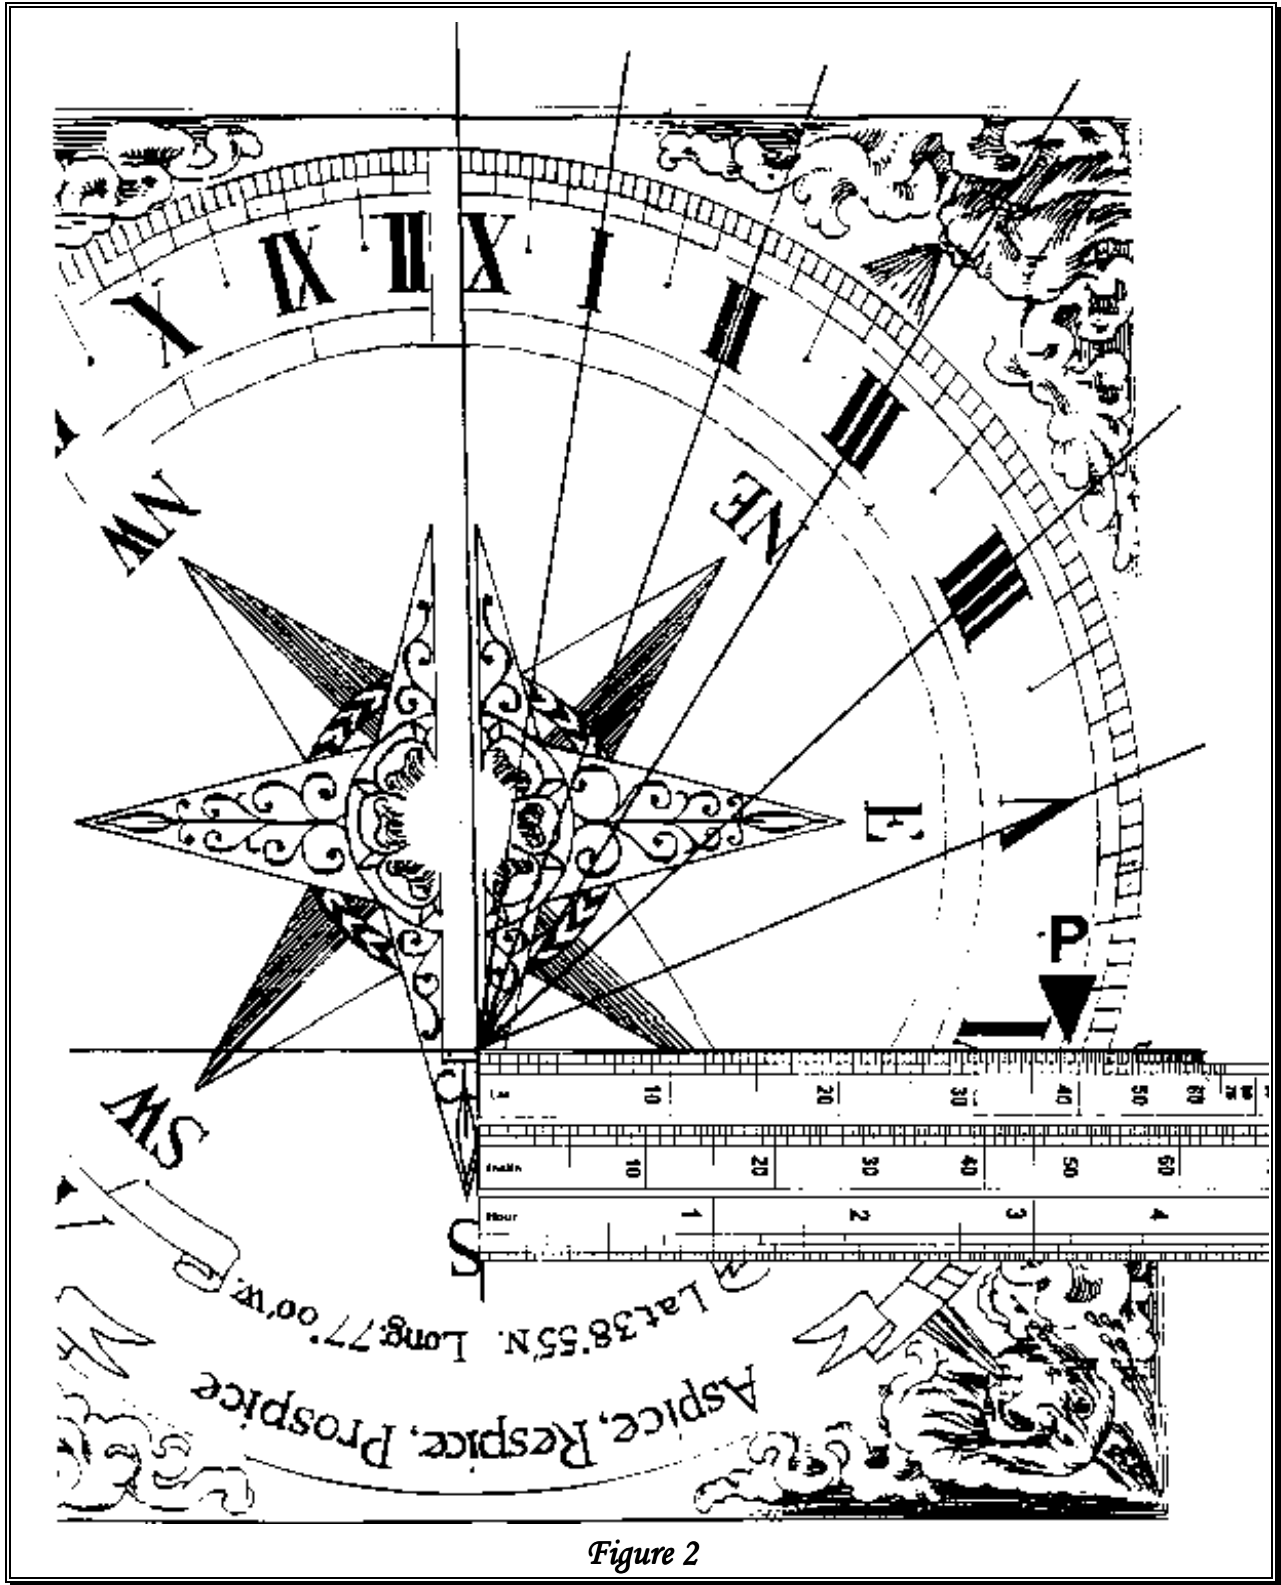

Figure 2
Step 3. Use Serle's "Lat." scale to measure along the "six o'clock" line from the "twelve o'clock" line to your mark. This gives a direct reading of the latitude for which the horizontal dial was designed (see Figure 2). If you are measuring a direct south vertical dial, this result is the complement of the latitude (*i.e.* latitude = 90 degrees minus this result).